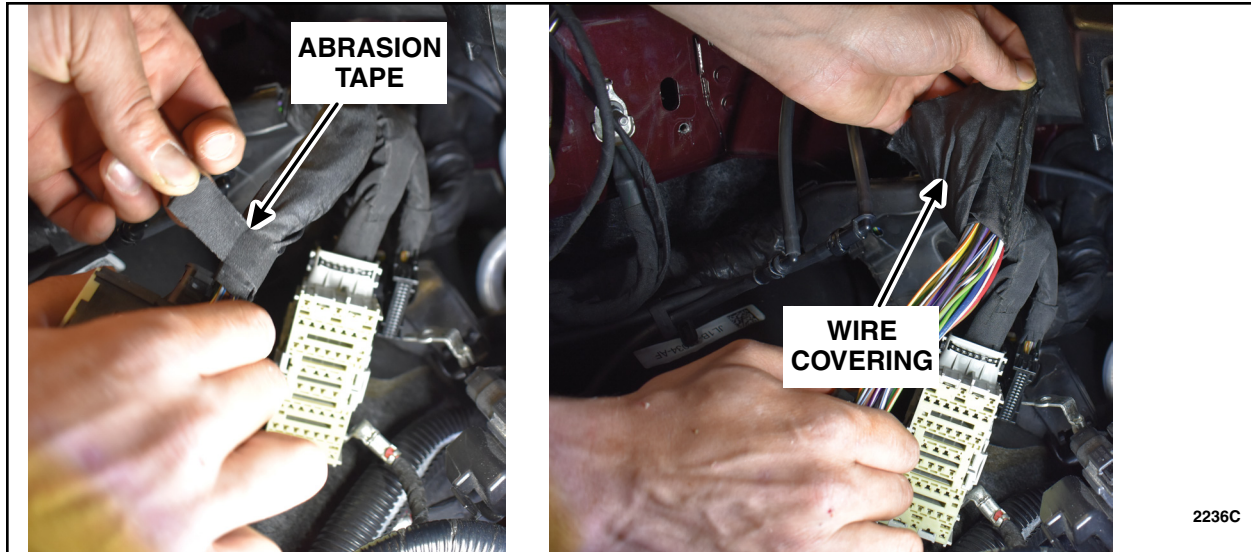

FIGURE 17
19. Remove abrasion tape from the harness and peel back the covering about 300mm. See Figure 17.